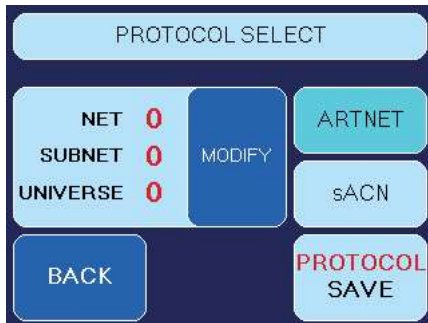
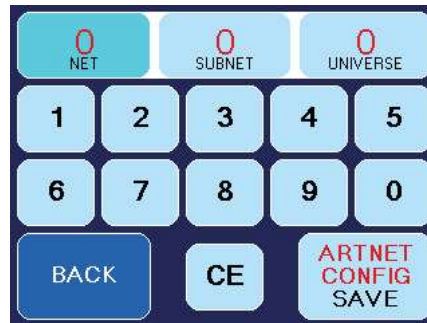

Fig. 12 Screen with activated ARTNET-Button
Fig. 13 Screen for configuring ARTNET
Press **ETH** at the main screen (Fig. 1, line 1) or select **SETTINGS** -> **PROTOCOL**. Screen (Fig. 12/13) appears.
- Therefore press **MODIFY** (Fig. 12). The screen shown on the right (Fig. 13) appears.
- Select **NET**, **SUBNET** or **UNIVERSE** (Fig. 13, line 1), to change the respective value. Press **CE** and type in the new value.
- Pressing **ARTNET CONFIG SAVE** saves the values, **BACK** switches back to the previous screen (Fig. 12) without saving the value.
- Press **PROTOCOL SAVE** (Fig. 12) to save the ARTNET adjustments.